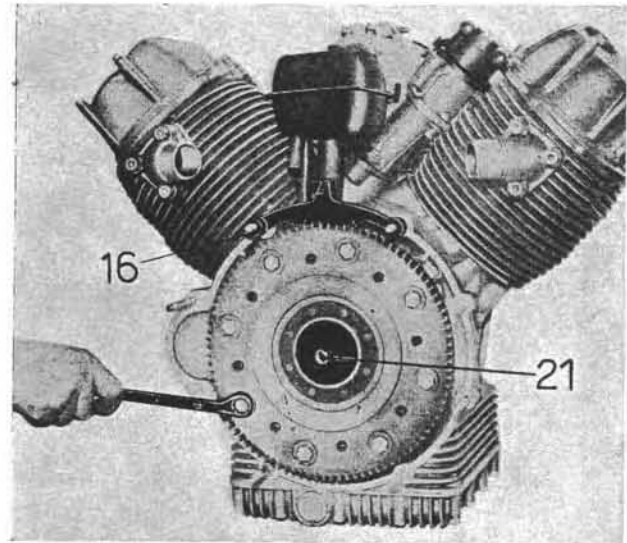

Fig. 8
- clutch unit, unscrewing bolts securing starter ring gear by means of ring wrench and tool No. 12911801 (see 16 on Fig. 8). Bear in mind that such bolts must be unscrewed in crossed sequence. After removal of ring gear remove